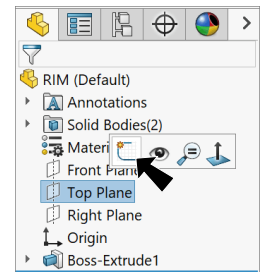

Fig. 8
Step 1. Click **Top Plane**  in the Feature Manager and click **Sketch**  on the context toolbar, **Fig. 8**.